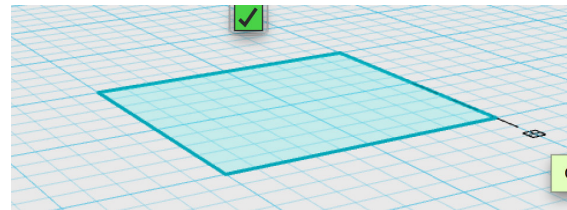

Figure 4-15 Click to stop
5. Move your cursor and click again to stop (Figure 4-15).